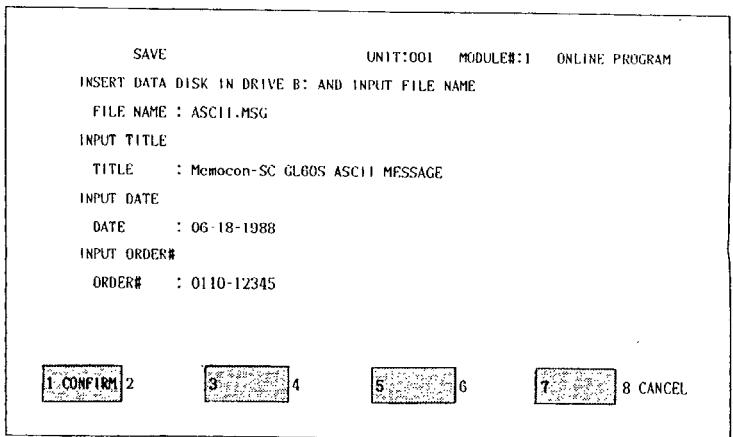

Fig. 7.32
3. Depressing CANCEL in Fig. 7.32 calls up the display of Fig. 7.30 again with no execution.